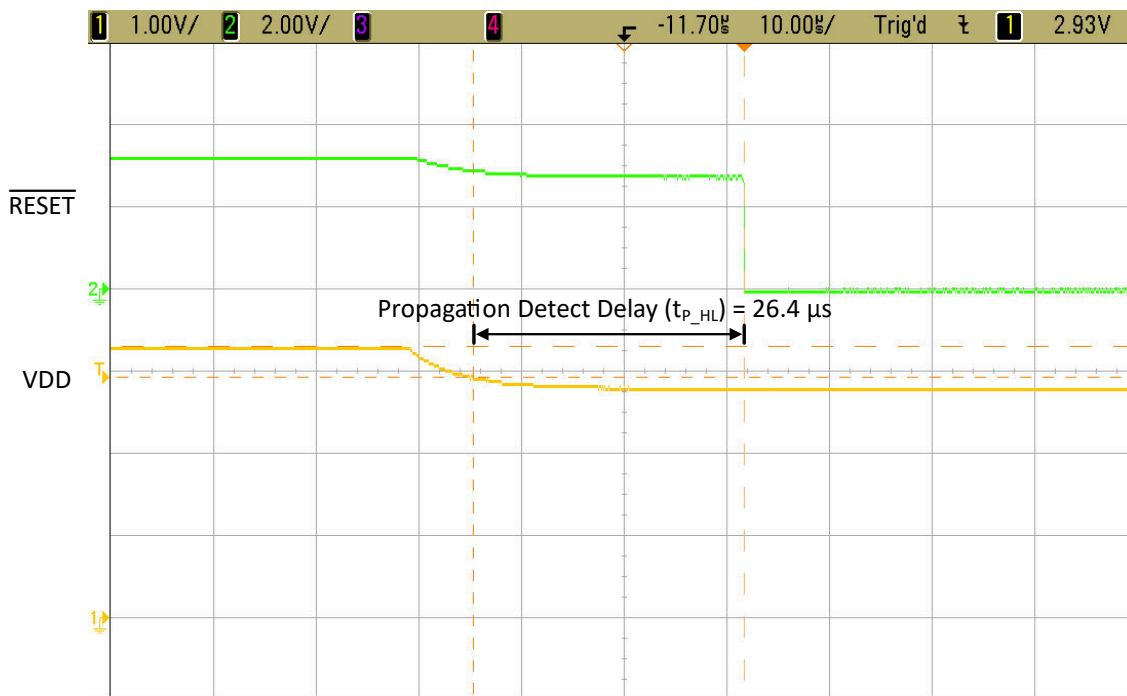

Figure 4-2. TLV841EVM \overline{RESET} Propagation Detect Delay
- The voltage on the SENSE pin falls below V_{IT-} for the TLV841S version. See Figure 4-2